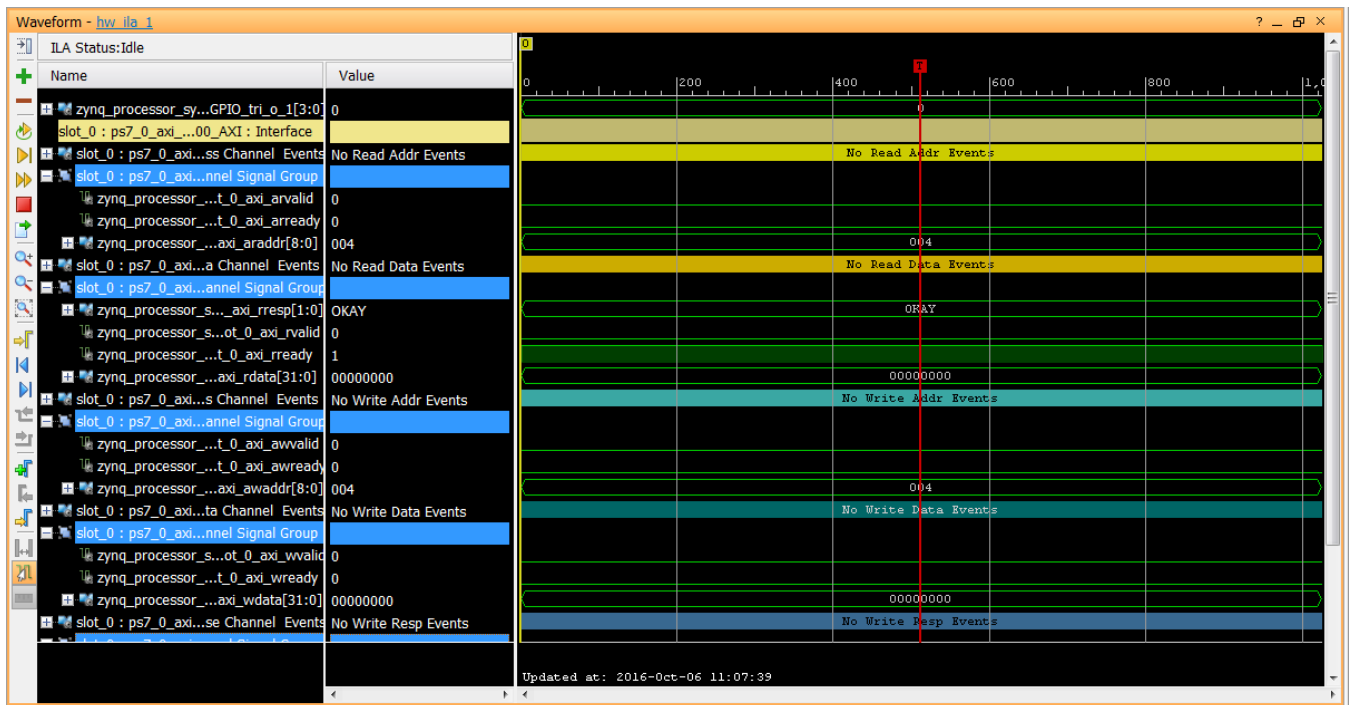

Figure 82: PS to PL Cross Trigger Waveform in hw_ila_1
4. As the code hits the breakpoint, the processor sends a trigger to the ILA. The ILA has been set to trigger when it sees the trigger event from the processor. The waveform window displays the state of various signals as seen in Figure 82.